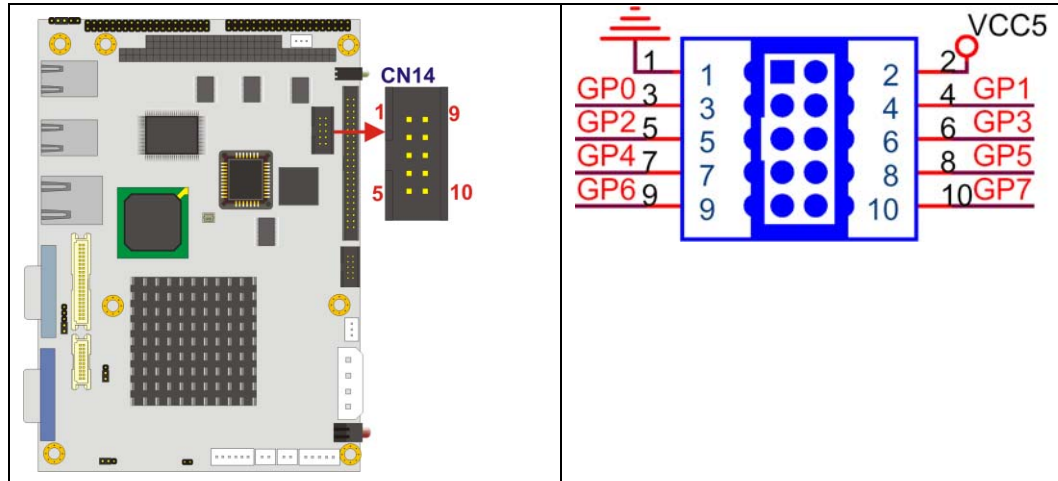

Figure 4-9: GPIO Connector Pinout Locations
- CN Location:** See **Figure 4-9**